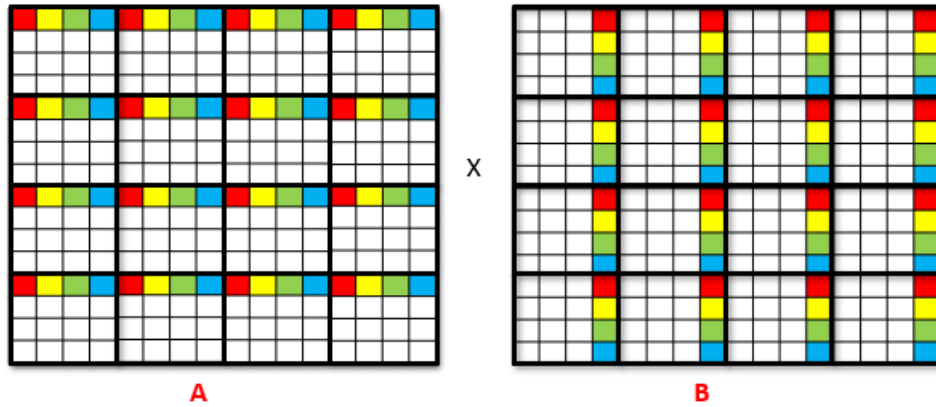

Figure 3: Phase1 of DMM: Computing the products
- Let us take a toy example, to illustrate the idea. Figure 3 shows two sample matrices  $A$  and  $B$  of size  $16 \times 16$ . Consequently, our *CUDA* kernel is composed of  $16 \times 16$  threads, split across 16 thread blocks. The thread block is laid out as a  $4 \times 4$  2D grid. Finally, the threads inside the thread block are also arranged in a 2D fashion with dimensions  $4 \times 4$ .